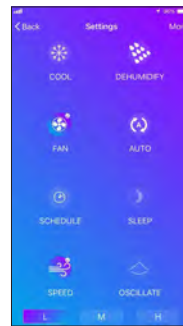

fig.3
Step 6. After connecting successfully, the app can be used to set schedules, change modes, and more (fig.3).